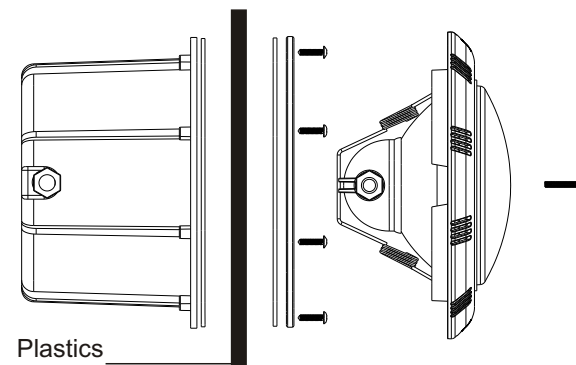

Figure 3.
2. Connect conduit to midst of Mounting Spacer (left of Bracket), see Figure 3.